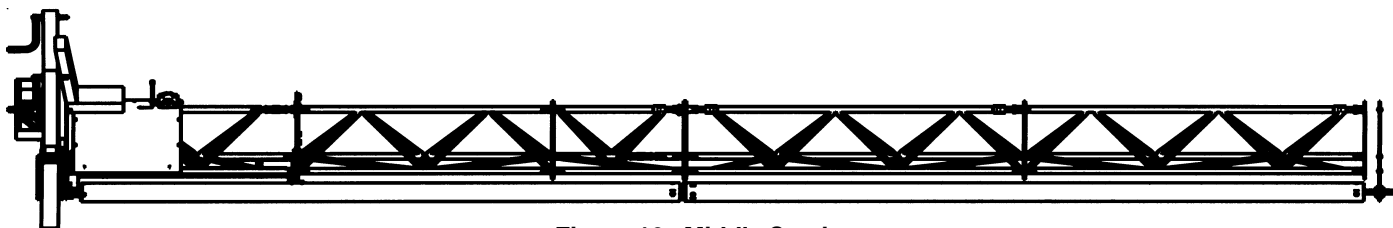

Figure 10. Middle Section
- ⇒ Care should be taken to lift the machine correctly. With a fork lift, one end at a time can be lifted onto the transport. Lifting straps should be placed around the top pipe in the 5' end sections. Figure 10 illustrates the recommended lifting points.